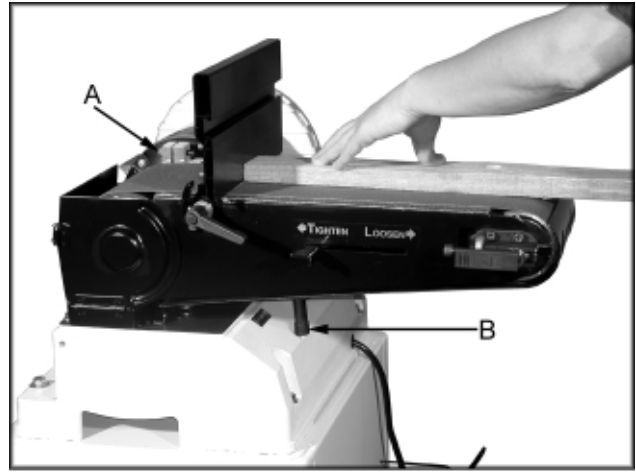

Fig. 7
1. Loosen the socket head cap screw (A, Fig. 7) so that the sanding belt can be rotated to the horizontal position.
2. Rotate the sander until the stop (B, Fig. 7) contacts the sander base. Tighten the socket head cap screw.
3. When the sanding belt is used in the horizontal position, the table may be used as a workstop, as shown in Figure 7.